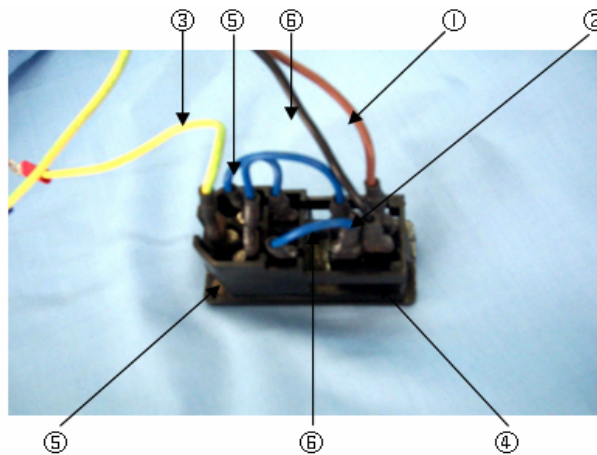

Figure 4-5 Power Switch
2. Press the tabs ④ on both sides of the switch holder, pull out the whole switch holder. The construction of the switch is as shown in Figure 4-5.